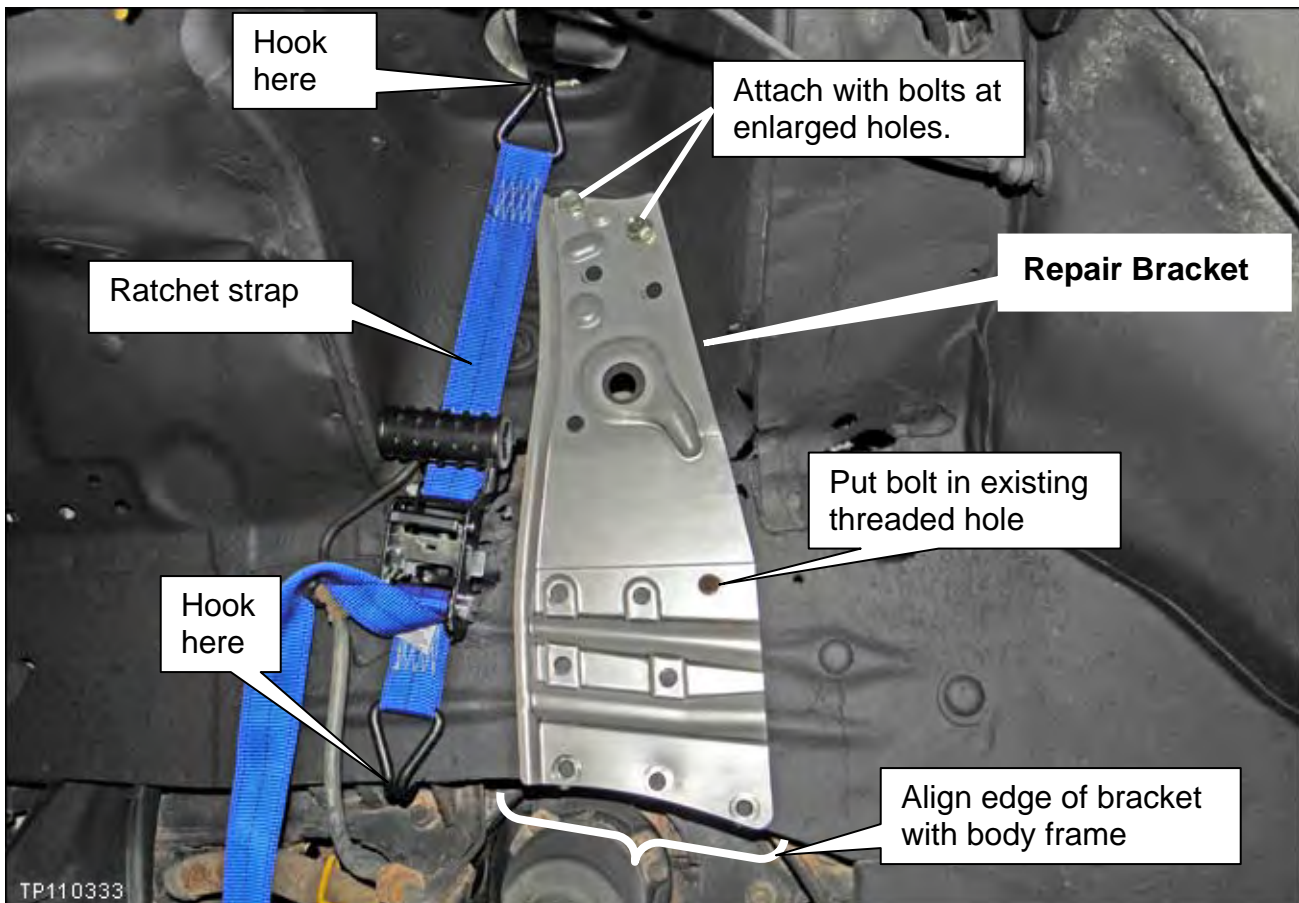

Figure RB8
14. Attach the repair bracket to the existing holes that you enlarged (see Figure RB8).
- a. Attach the ratchet strap as shown in Figure RB8.
- b. Use the ratchet strap to pull the strut housing panel until the existing threaded hole is aligned with the matching hole in the repair bracket (see Figure RB8).